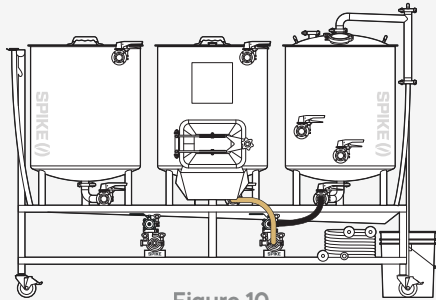

Figure 10
14. Move the hose (**Black**) from the top CIP ball port to the bottom drain of the BK. (see **Figure 10** on next page)